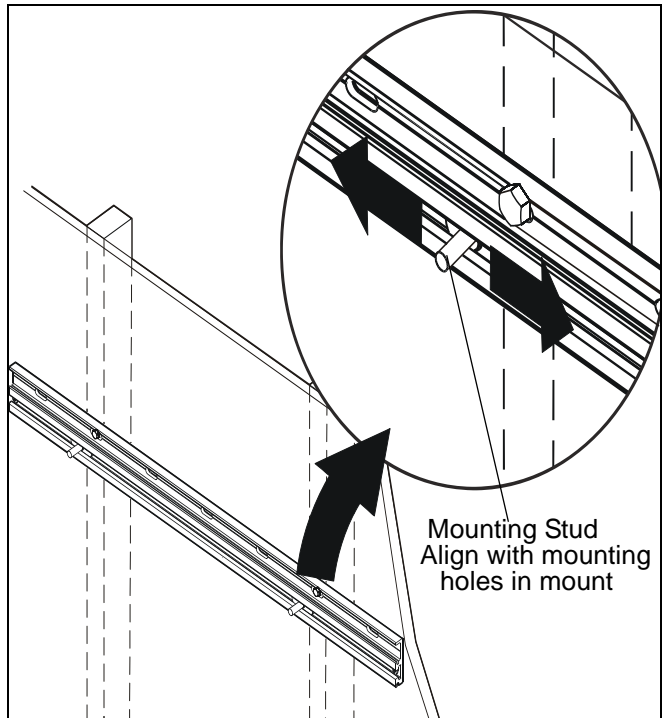

Figure 4
5. Position mounting studs in ENS lateral shift bracket so that they align with mounting holes in mount being installed. (See Figure 4)